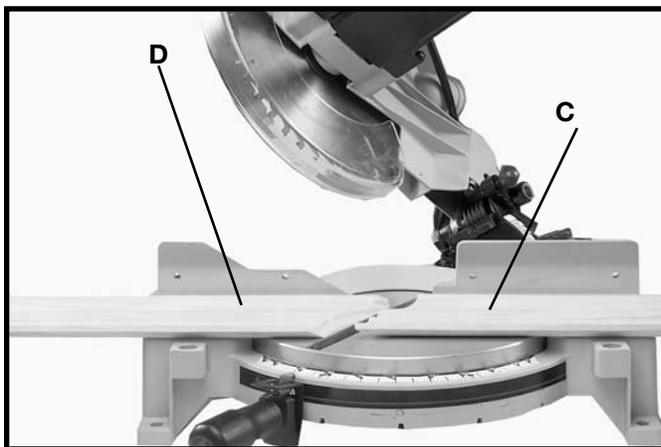

Fig. 40
5. Place the crown moulding on the table with the **WALL EDGE** of the crown moulding against the fence and make the cut. Again, the piece of crown moulding used for the outside corner will always be on the right side of the blade, as shown at (C) Fig. 40. The piece of crown moulding used for the inside corner will always be on the left side of the blade, as shown at (D) Fig. 40.